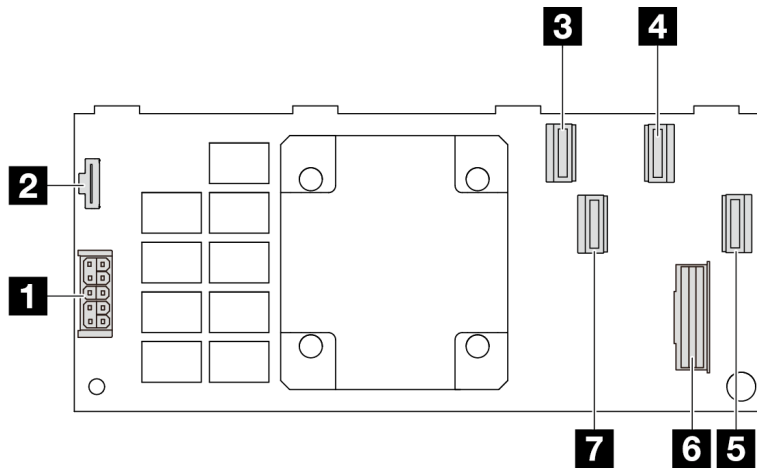

Figure 252. A Gen 4 16i CFF RAID adapter (four port connectors)
- Figure 252 “A Gen 4 16i CFF RAID adapter (four port connectors)” on page 285